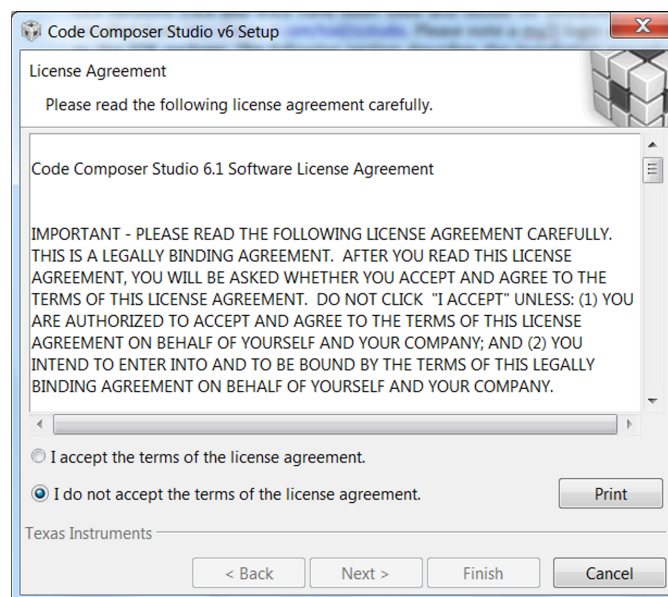

Figure 8. CCS License Agreement
- Step 2. Read through and accept the license agreement to proceed with the installation (see Figure 8).